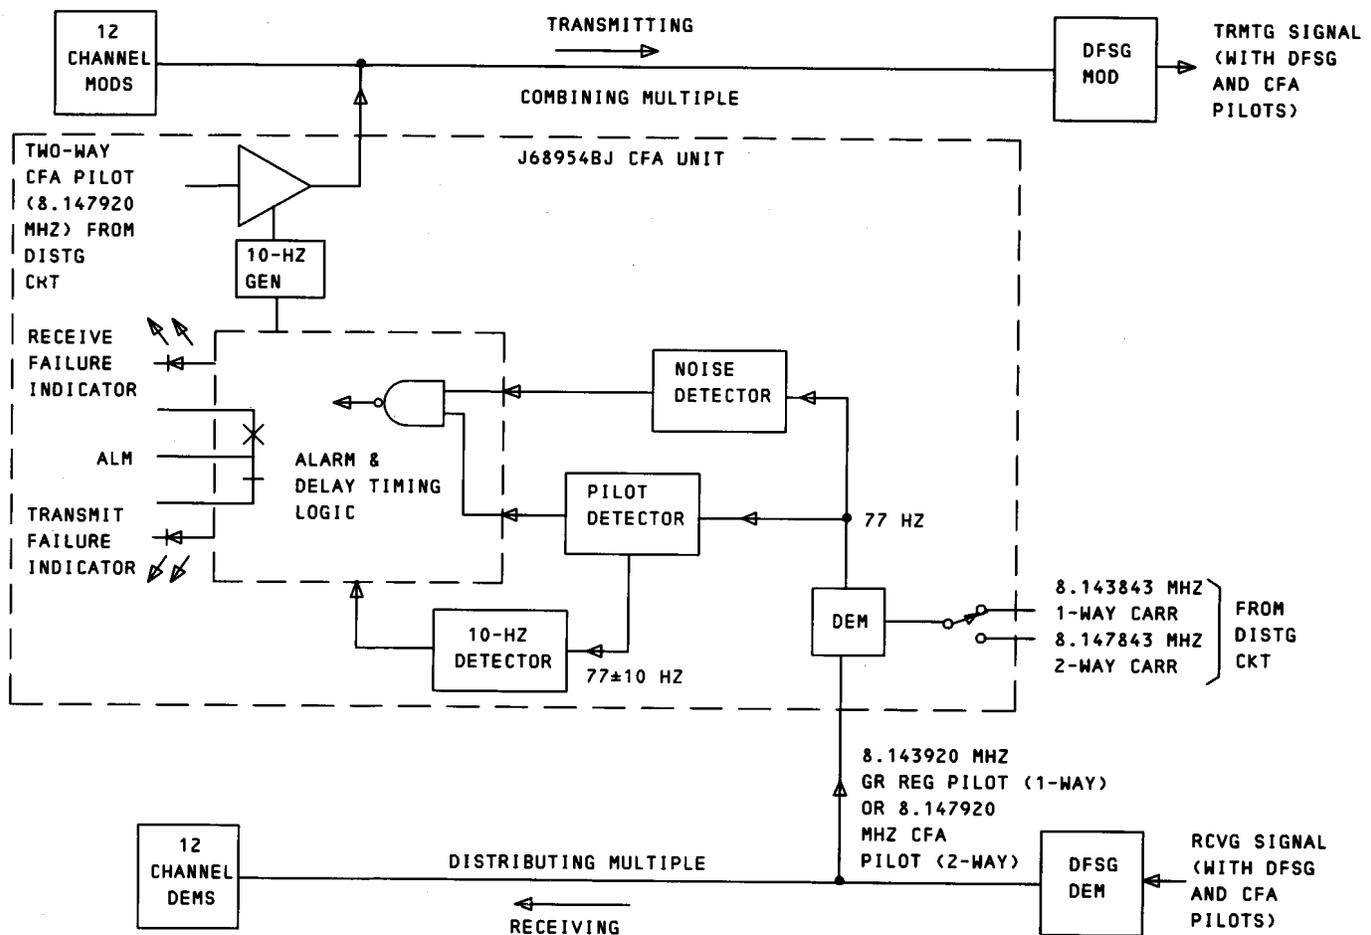

Fig. 5—CFA Unit—Block Diagram
2.19 J68954BJ CFA Unit: The J68954BJ CFA unit (Fig. 5) consists of a 10-Hz gating circuit; noise, pilot, and 10-Hz detectors; alarm and delay timing logic circuits; and transmit and receive failure indicating lamps.